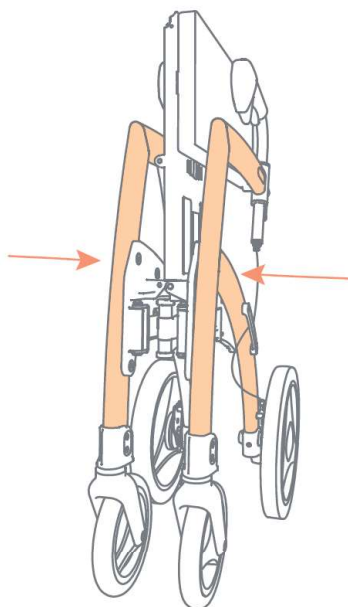

Figure 12
4. Push the sides of the frame towards each other until the rollator is completely folded (Figure 12).